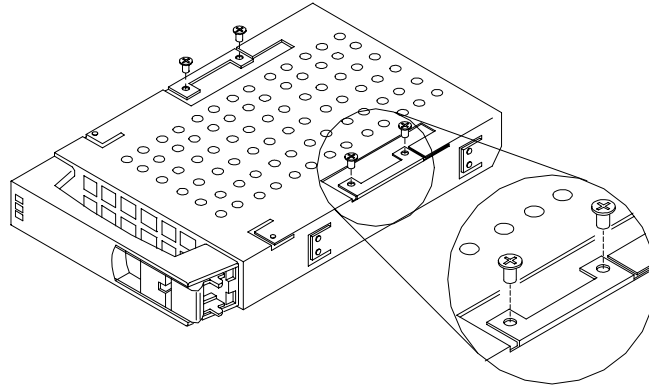

Figure 4-16. Removing/Installing a Hard Disk Drive to the Carrier
5. Remove the hard disk drive from the disk carrier. See Figure 4-16.
- Turn the drive and carrier over and secure the drive in the carrier with the four screws supplied with the disk drive. See Figure 4-16.